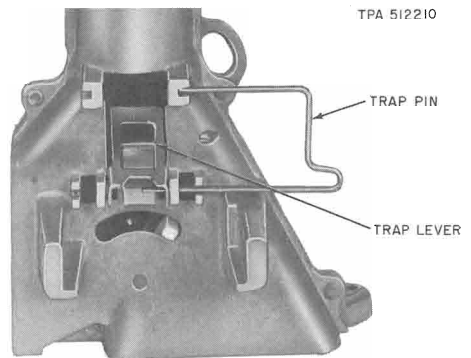

Fig. 31—Placing Trap-Lever Pin on Hopper¶
- (1) Partially insert trap pin into hole in hopper (Fig. 31) and place trap-lever on trap pin.